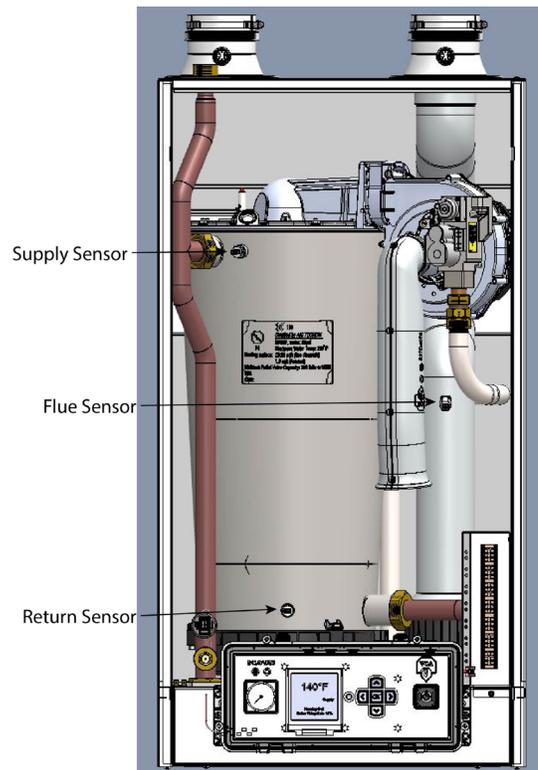

Fig. 1: Prestige 250 Temperature Sensor Location
6. Locate the temperature sensor location from Fig. 1 and Fig. 2.